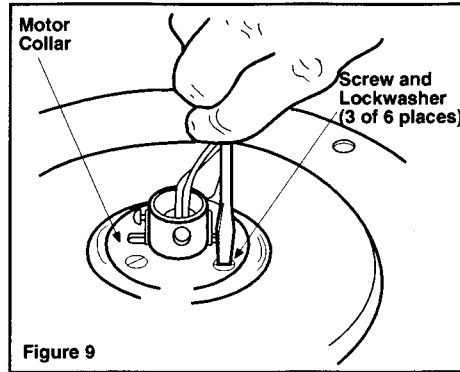

Figure 9
- Remove three of the six screws and lock-washers (every other one) securing the motor collar to the top of the fan motor housing (Figure 9).